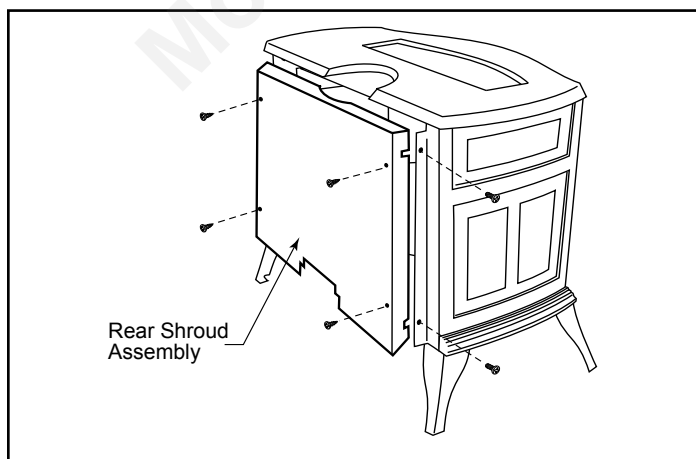

Figure 22 - Remove rear shroud.
- Loosen the four (4) phillips head screws which secure the rear shroud to the stove sides. (Figure 22)